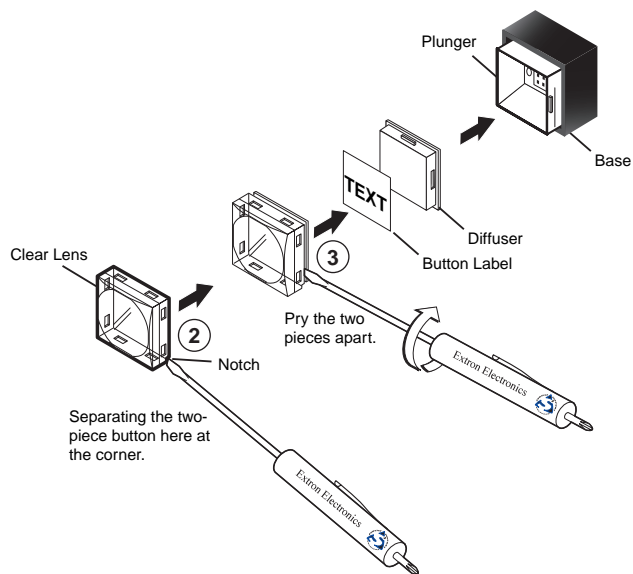

Figure 93. Replacing a Button Label
1. Remove the button assembly by inserting a small, flat-bladed screwdriver, such as an Extron Tweaker, between the button base and the diffuser to gently pry the button assembly off the button plunger, as shown in figure 93.
2. Locate the small corner notch on the clear lens cap, and slide the screwdriver between the lens cap and the diffuser (see ② in figure 93).
3. Using a rotating motion of the screwdriver, carefully pry the two pieces apart (see ③ in figure 93).